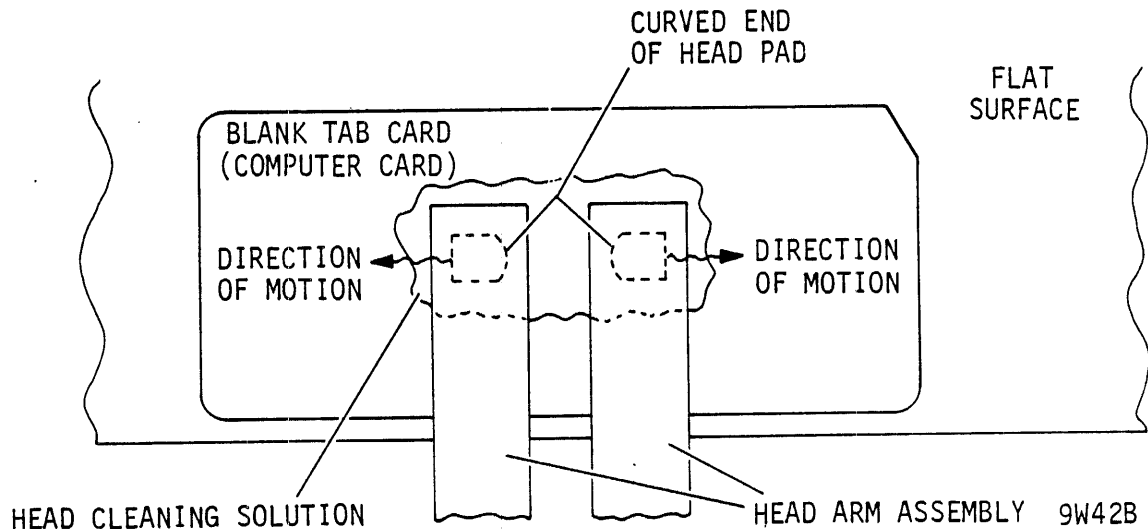

Figure 6-9. Head Cleaning Motion
Refer to figure 6-9 if head cleaning is required and perform the following procedure. Use care not to damage any part of the head arm assembly.
3. Place a blank tab card (see list of Maintenance Tools and Materials) or a new, unpunched, clean computer card with the back side up (printing down) on the clean flat working surface as shown in figure 6-9.
5. Very carefully place the head pad flying surface on moistened area and move head pad from moistened area to dry area in a zig-zag motion as shown in figure 6-9. Move head in a direction away from curved end of head pad. If it is moved in the opposite direction the sharp edge of the curved end will cut into the computer card and prevent movement and proper cleaning.